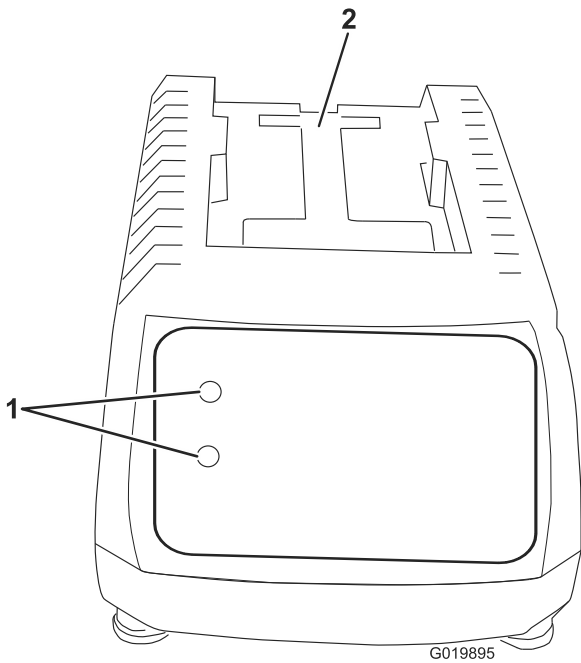
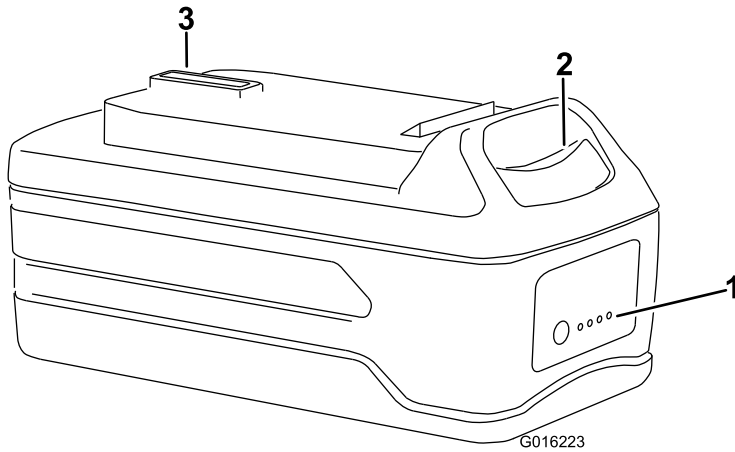

Figure 8
Figure 9
1. Turn the battery pack upside down and line up the battery terminal with the slot in the charger (Figure 8 and Figure 9).